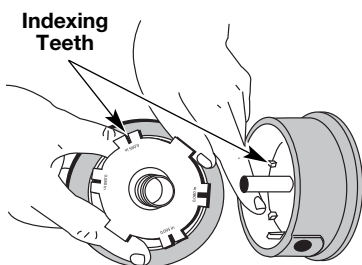

Fig. 33
5. Check the indexing teeth on the inner reel and outer spool for wear (Fig. 33). If necessary, remove burrs or replace the reel and spool.